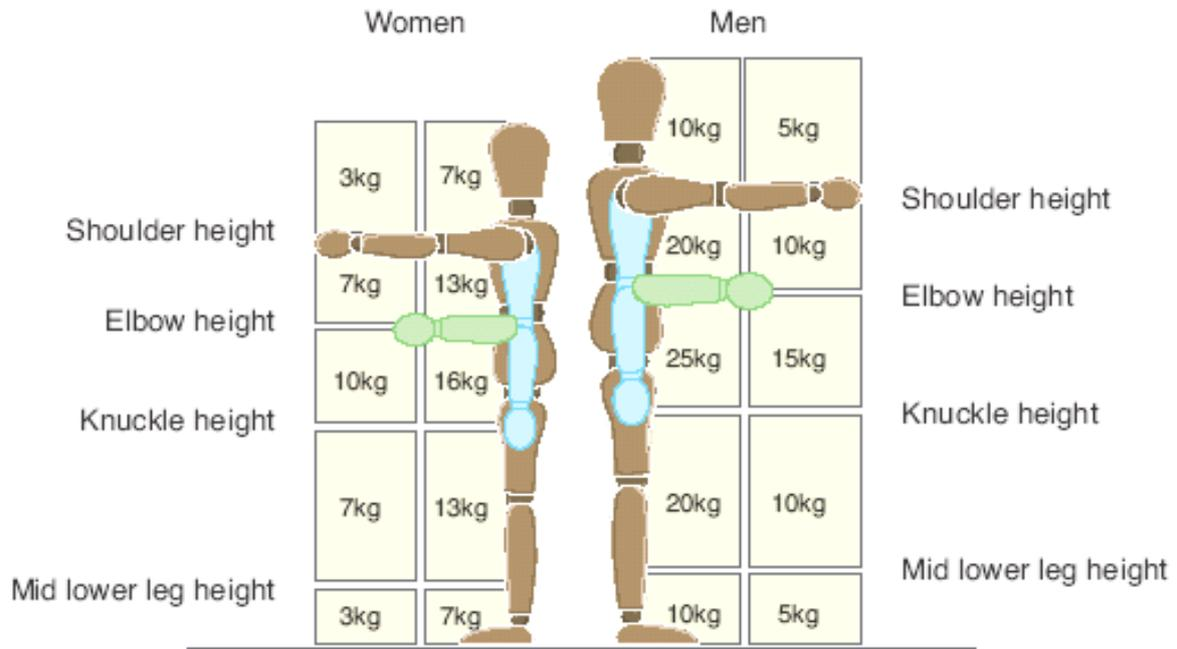

Figure 2 Lifting and lowering
- Use Figure 2 to make a quick and easy assessment. Each box contains a guideline weight for lifting and lowering in that zone. (As you can see, the guideline weights are reduced if handling is done with arms extended, or at high or low levels, as that is where injuries are most likely to occur.)
Using Figure 2 is a first step. If it shows the manual handling is within the guideline figures (bearing in mind the reduced limits for twisting and for frequent lifts) you need not do any more in most cases. But you will need to make a more detailed assessment if: